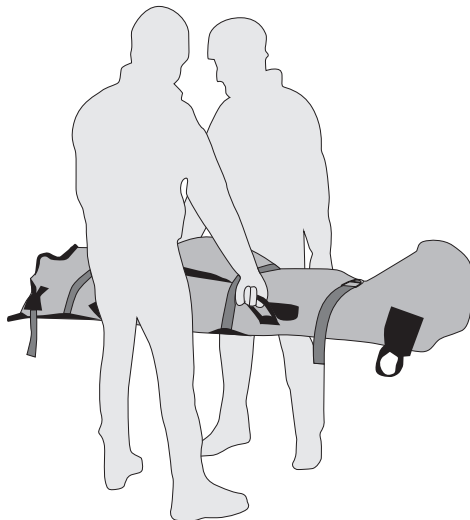

Fig.43
- manually transported by two operators using the fabric handles (fig. 43),